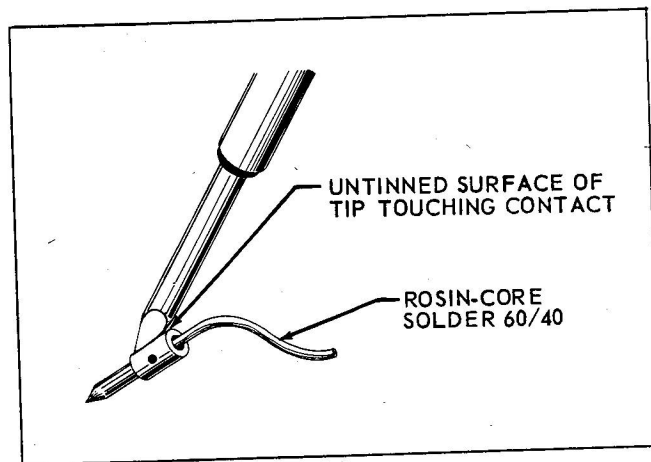

Figure 4-11. Tinning Inside of Contact
4-22. Tin inside of contacts (male or female) with soldering iron, as shown in Figure 4-11. (Use untinned face of tip to prevent depositing solder on outside of contact.)
- i. Tin inside of contact (male or female) as shown in Figure 4-11.
i. Tin inside of contact (male or female) as shown in Figure 4-11.